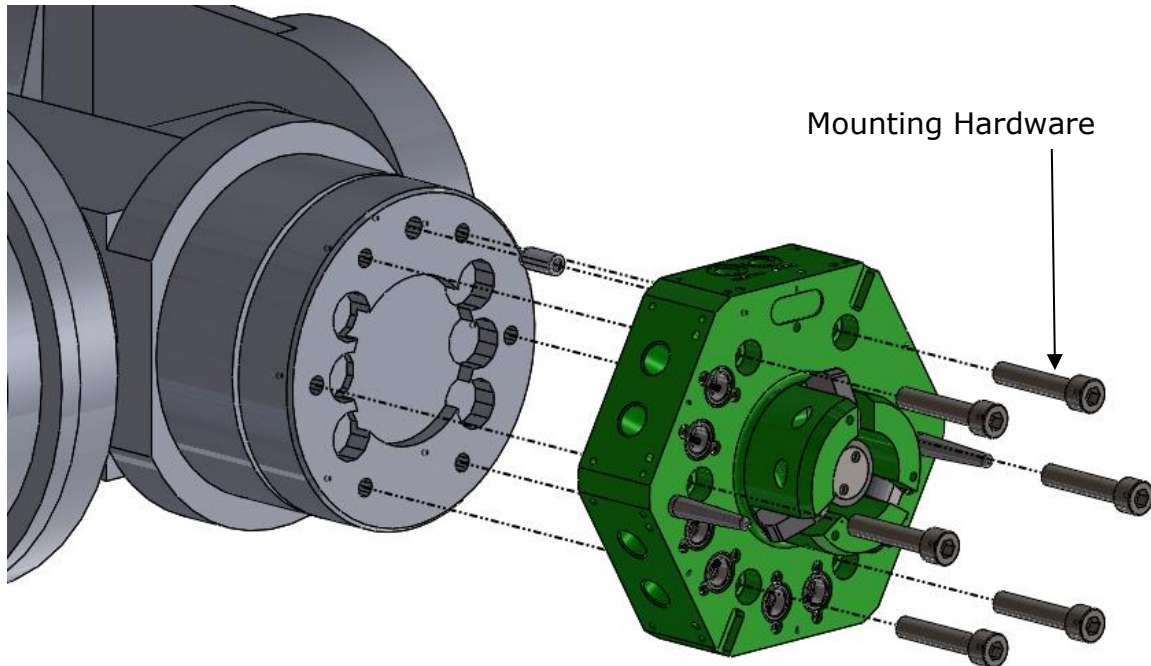

Figure 5.1.1-1. E125LP Robot Side Installation w/ M10 Hardware
1. Locate the Robot Side to the manipulator mounting flange utilizing the locating boss and one (1) M10 locating dowel (Figure 5.1.1-1).